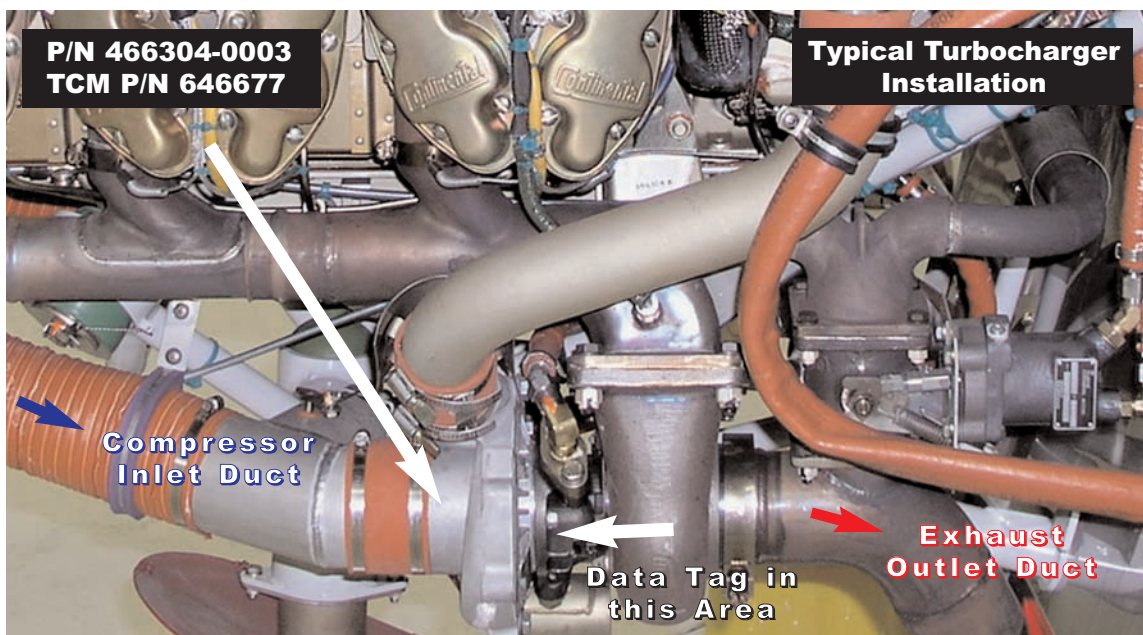

Figure 1 - Turbocharger Installation
2. Remove the compressor inlet ducts to expose the compressor wheels (see caution above). Refer to Figure 1.
1. The affected turbocharger P/N 466304-0003 (TCM P/N 646677) must be removed and replaced per the table shown on page 1. Each aircraft has two turbochargers. Check the data tag on each to identify whether the serial number of the turbocharger is one that is affected. When identification is made, remove the turbocharger from the aircraft. Removal must be in accordance with the aircraft and/or engine manufacturers maintenance manuals or service instructions. Contact the aircraft and/or engine manufacturer to determine the disposition of the suspect turbocharger and information regarding the return of the turbocharger(s). All warranty applications must be made through the aircraft and/or engine manufacturer. *Refer to Fig 1 as required.*